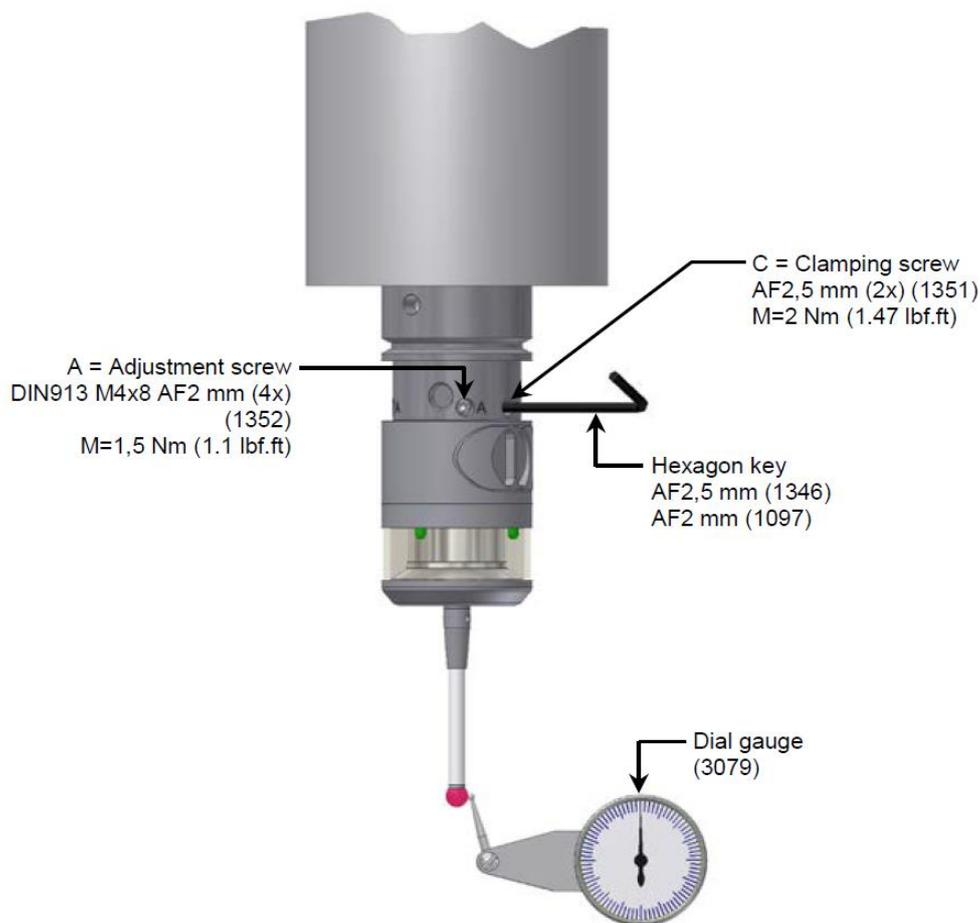

Figure 10 Aligning stylus to spindle centre
1. Loosen clamping screws **C** (Figure 10) (2x) then slightly retighten.
2. Adjust the probe with the adjustment screws **A** (Figure 10) (4x) to within less than 20 μm .
5. Tighten the clamping screws **C** (2x) to the torque specified in Figure 10..
6. Tighten the adjustment screws **A** (4x) to the torque specified in Figure 10 against each other.